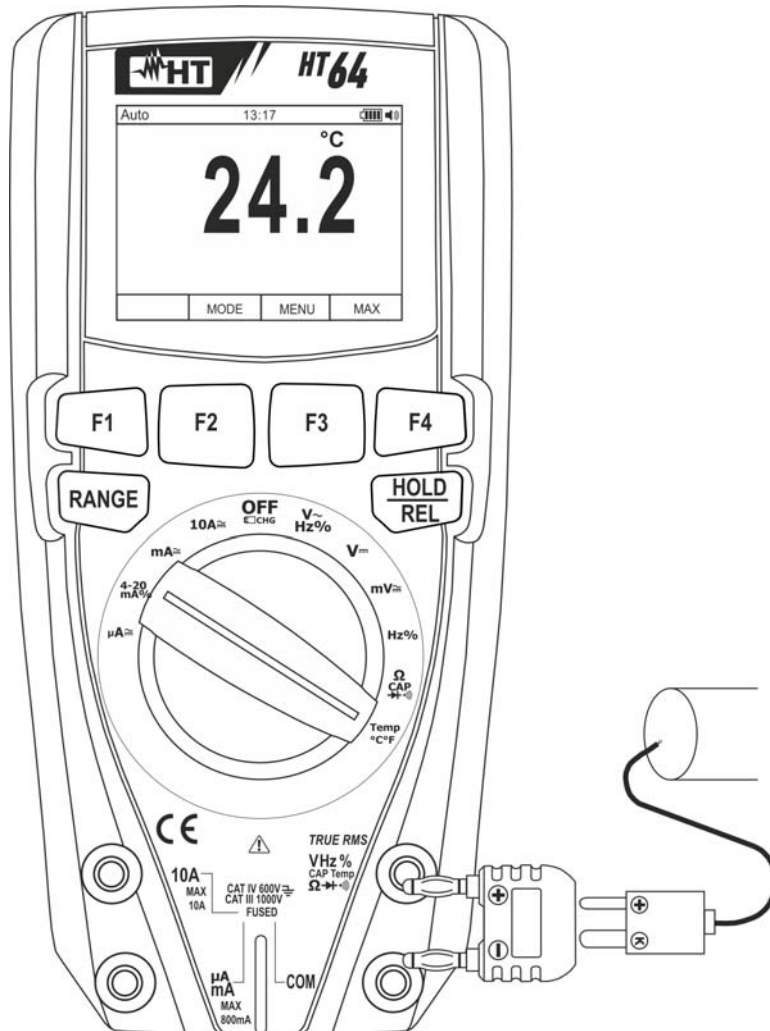

Fig. 28: Use of the instrument for Temperature measurement
3. Insert the provided adapter into input terminals **VHz%CAPTempΩ** (polarity +) and **COM** (polarity -) (see Fig. 28)